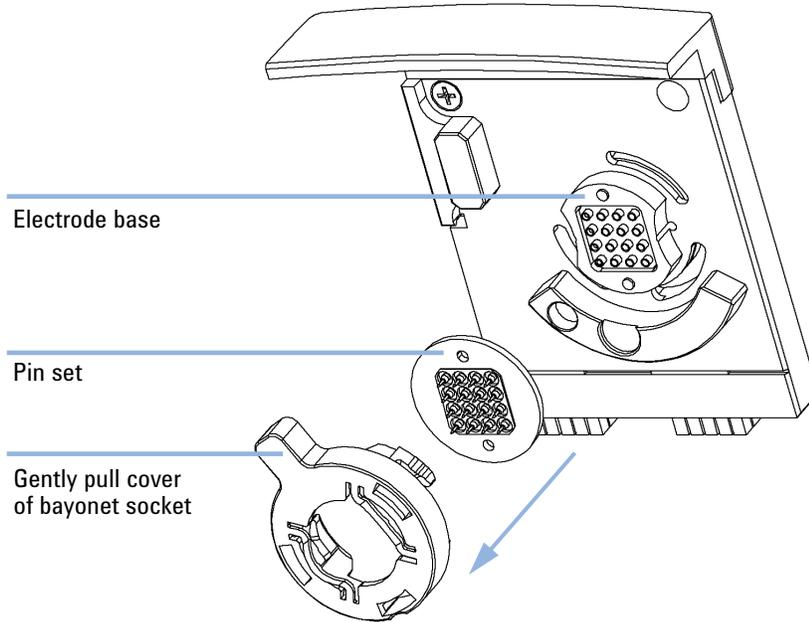

Figure 4 Releasing the Pin Set
- 3 Remove the cover of the bayonet socket by gently pulling the plastic lever as shown in Figure 4. The pin set may stick to the electrode base. Remove it by carefully pulling it off. See Figure 4.